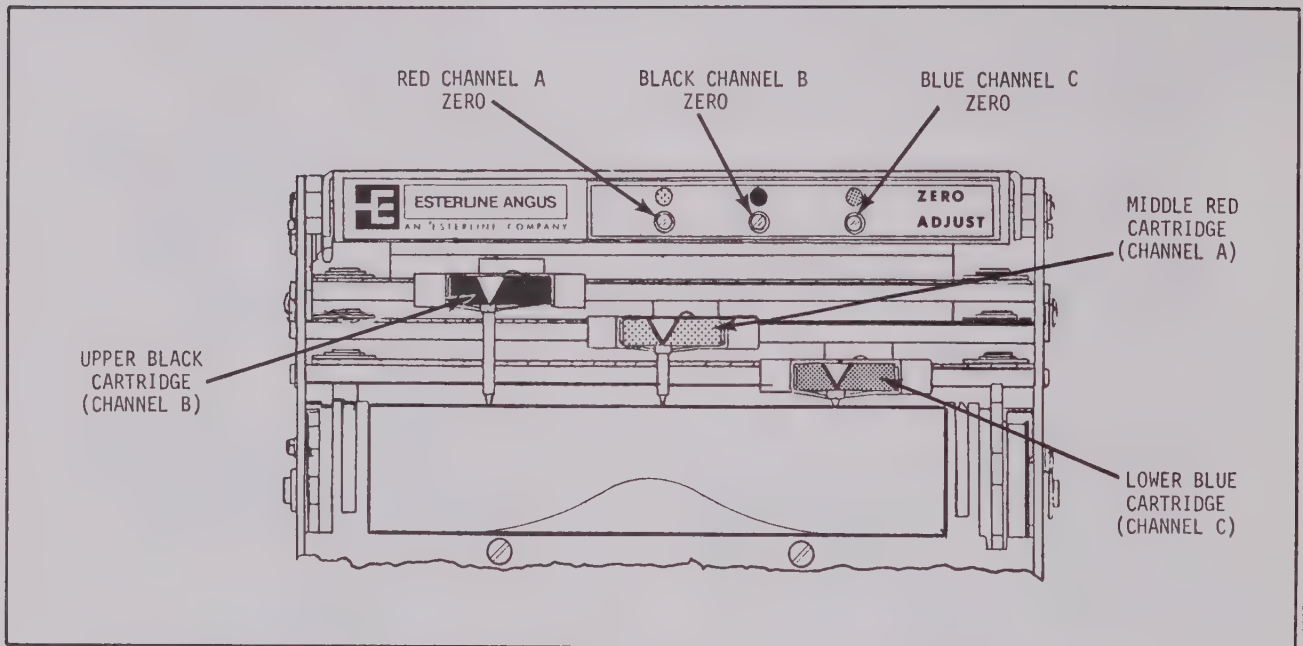

Figure 2-3. Ink Cartridge and Zero Adjust Locations for Three-Pen Recorder.
a. Disposable pen-and-ink cartridges are employed in the writing system of Miniservo III recorders. These plug-in modules are supplied as accessories in the instrument service kit. Single-pen recorders are supplied with red ink cartridges and a snap-on scale pointer; while the three-pen model uses cartridges of different ink colors and pen tip length for each recording channel. Standard ink colors are: Red for channel "A", black for channel "B", and blue for channel "C". Refer to Figure 2-3 for the correct operating position of each channel cartridge.
NOTE: On three-pen models (Fig. 2-3) install cartridges with shortest pen tips first. A piece of paper or blotter may be inserted under pen tips to avoid ink traces on chart.
g. ZERO ADJUST: One screwdriver adjustment potentiometer is provided for each recording channel. Located directly above the scaleplate, the pot is used to zero the recording pen on the chart or to suppress or elevate electrical zero to a desired offset value. Refer to Figure 1-1 for location of zero adjust on one-pen model, and Figure 1-2 or Figure 2-3 for zero adjusts on three-pen models.